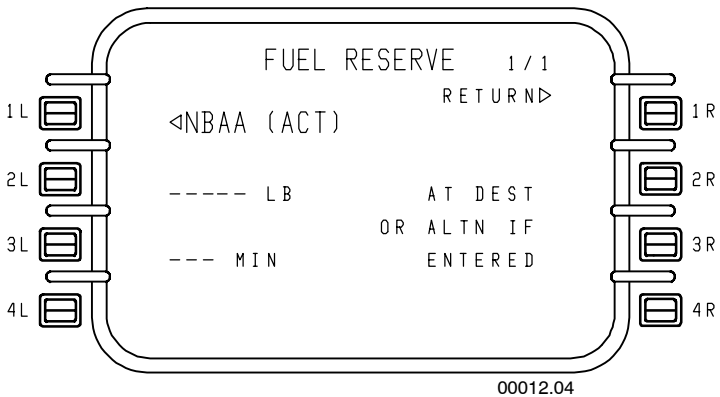

Figure 5-18
- **2L** – The method of calculating fuel reserve is displayed on this line. Entering *DELETE* returns to the default reserve mode which is National Business Aircraft Association (NBAA) rules. If one of the other two modes (pounds remaining or time remaining) has been selected on the FUEL RESERVE page, an entry can be made directly on this page as shown in Figure 5-18. For example, if 1000 LB is displayed, an entry of 2000 changes the reserve quantity to 2000 LB.
- **2R** – This line accesses the FUEL RESERVE page, which is shown in Figure 5-18.
- **FUEL RESERVE 1/1** - Figure 5-18 is where the fuel reserve mode is changed or modified. The fuel reserve page contains three modes.